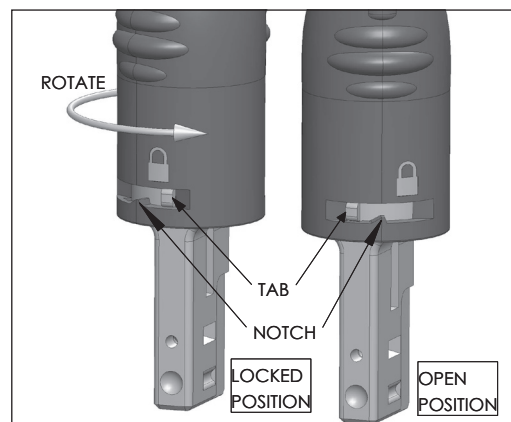

Figure 2: Removing the Magazine Cover
- 8.3.3 TheraStrand® consists of a variable number of seeds and spacers contained in bioabsorbable suture and custom loaded into 18-gauge brachytherapy needles. All TheraStrand® configurations begin and end with a 2.75 mm spacer (Figure 2). The maximum length of configured components is 6.5 cm.
- 12.3.4.2 To open the vertical seed magazine (VSM), rotate the cover counterclockwise past the notch until the tab is in the open position (Refer to Figure 2). Remove the cover using gentle upward pressure.